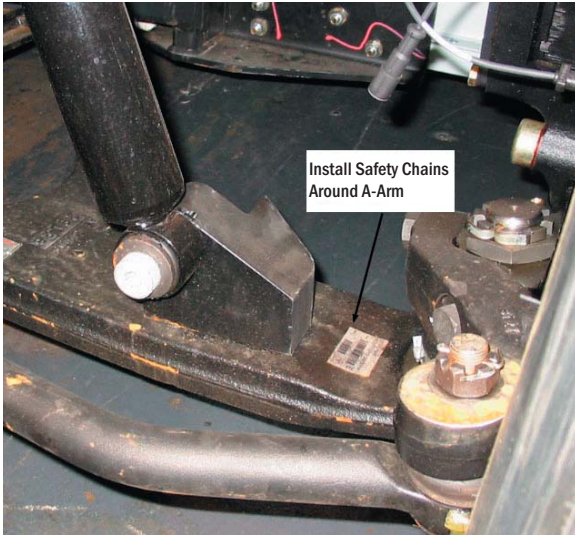

Figure 5 - Front Axle
- Maneuver wheel grid into position. After motorhome has been lifted, install safety chains on lower A-arms. (See Fig. 5)